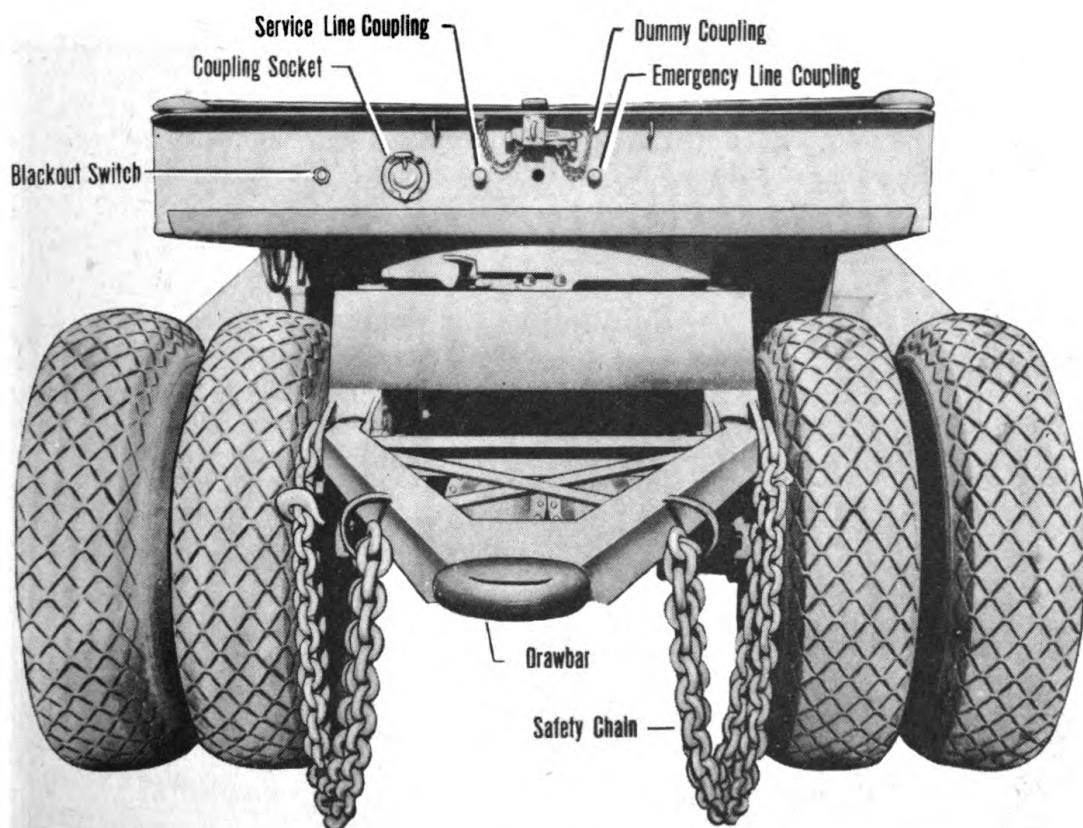
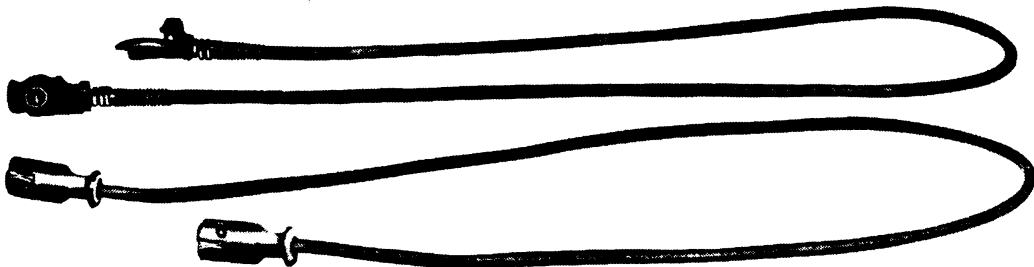

Figure 9—Front of Trailer.
Figure 10—Hose Assembly (top) and Jumper Cord.
8. Hose couplings (figure 9) are mounted at the service line and emergency line outlets at the front of the trailer to provide a simple means of attaching hose connections from the towing vehicle.
9. Dummy couplings (figure 9), located near the hose couplings at the front of the main trailer frame, are designed for attachment to the hose couplings to prevent entrance of dirt when the hose couplings are not being used.
2. The blackout switch (figure 9) is located at the front of the main unit frame.
3. A jumper cable (figure 10) supplies current to the trailer through a socket (figure 9) on the front of the main unit frame.
The trailer is equipped with a coupling socket (figure 9) in the center of the front cross member of the frame. A jumper cable (figure 10) for connection to the towing vehicle is a trailer accessory.
1. The blackout switch (figure 9) is located on the front cross member of the main frame. It has no "OFF" position. It is either at a blackout position or at a standard light position.